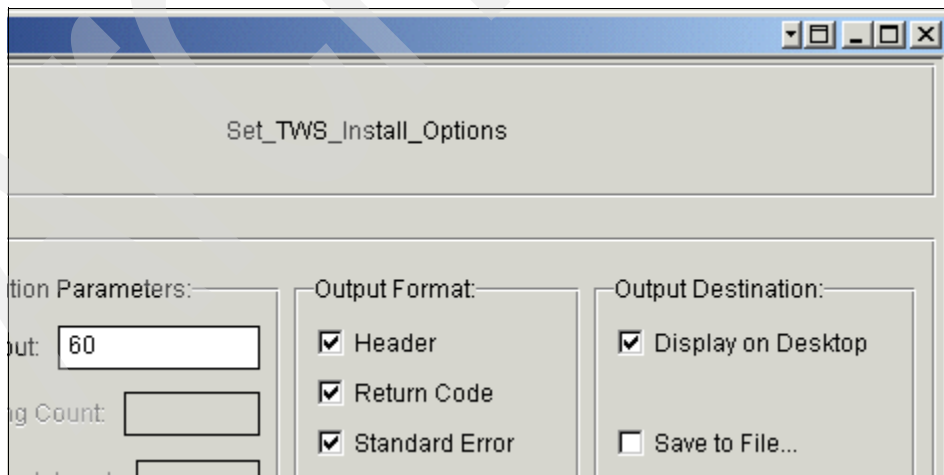

Figure 8-10 Selecting output destination for the task Set_TWS_Install_Options
6. Select **Display on Desktop** in the Output Destination group as shown in Figure 8-10.